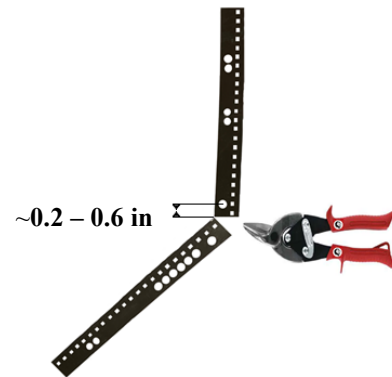

Figure 24: Excess Tape Cutoff
9. Cut the tape between ~0.2 – 0.6 inches down from the center of the hole that the bottom carabiner will go through. See Figure 24